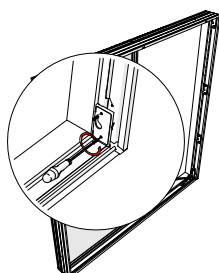

Figure 7: Remove strike plate
- B: Removing the strike plate (figure 7)